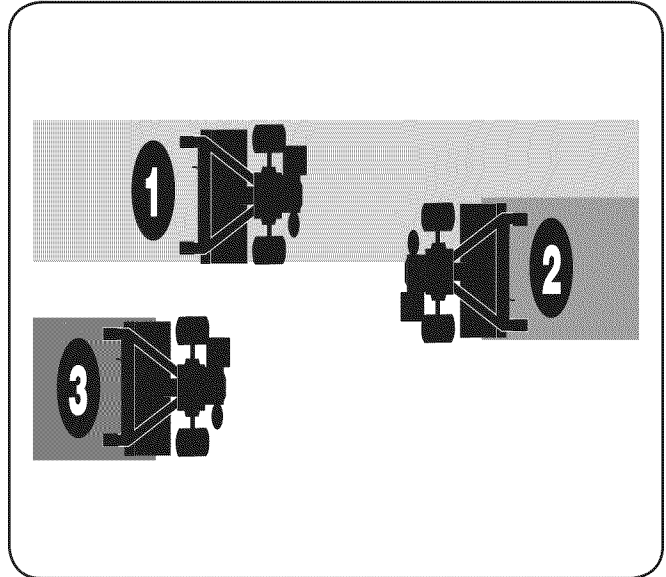

Figure 5-6
- If the garden size will not permit lengthwise and then crosswise tilling, then overlap the first passes by one-half a tiller width, followed by successive passes at one-quarter width. See Fig. 5-6.